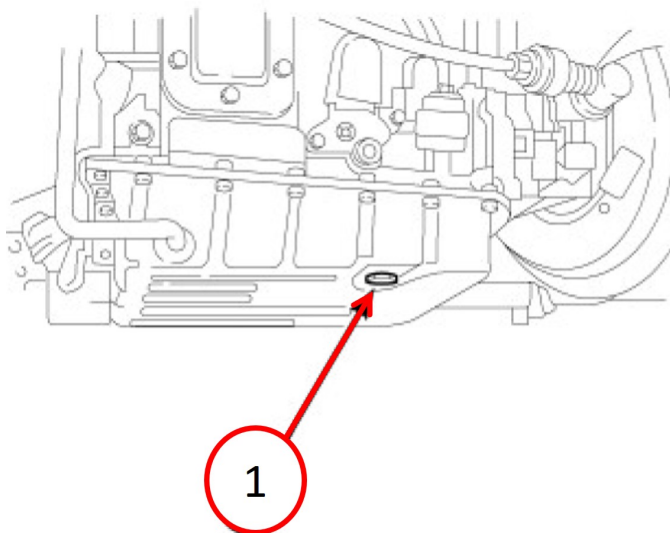

Fig. 1
5. Remove oil pan drain plug Fig. 1 and drain fluid from transmission pan. **DISCARD** the drain plug gasket.
35. Using a **NEW** gasket, install the transmission oil pan drain plug Fig. 1.